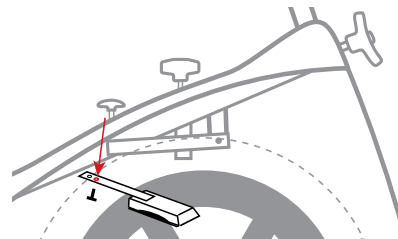

Figure 18
- 4: Take the new brake block and fasten it to the frame by tightening the screw closest to the brake block, see figure 18.